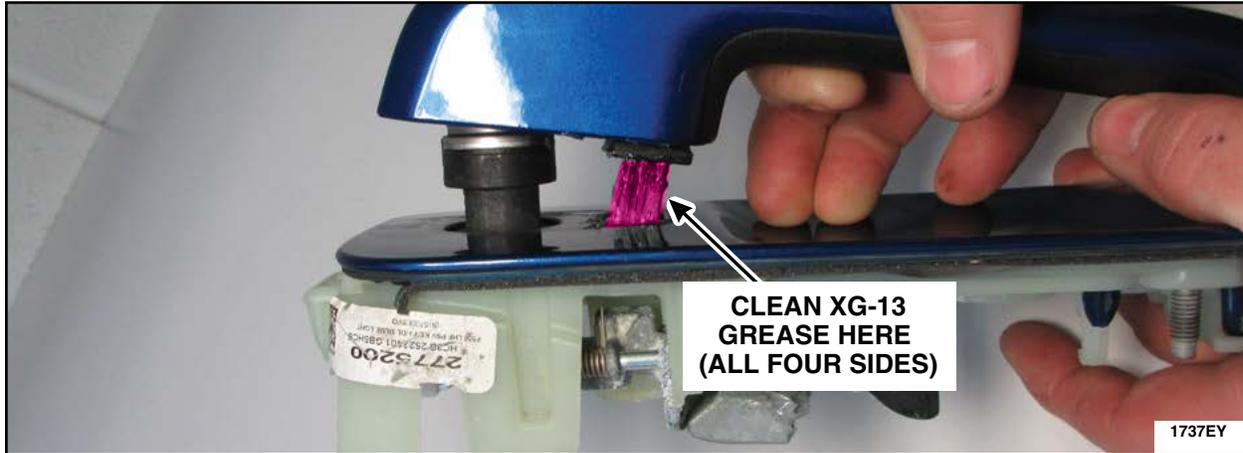

FIGURE 33
16. Using a clean shop cloth and isopropyl alcohol, clean the XG-13 grease from the handle plunger and the three areas highlighted on the exterior door handle. See Figures 33 and 34.